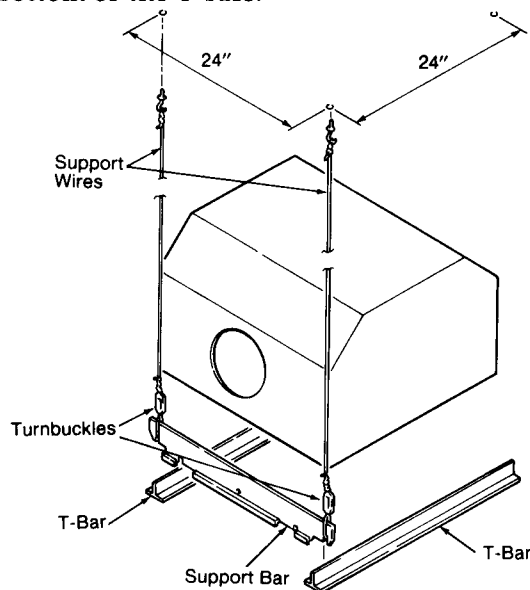

FIGURE 1
1. Attach four 12 gauge galvanized steel support wires to true ceiling at location shown in Fig. 1. Twist each wire at least four times to provide safe support for the air cleaner. The free end of each wire should extend six inches or more below the bottom of the T-bars.
2. At the end of each opening, set a support bar across the T-bars. The "J" shaped portion of the support bars should be oriented so the hook side of the "J" is toward the opening (not toward the adjacent T-bars). See Fig. 1.
4. Hook the turnbuckles to the support bars and then secure the support wires to the eyes of the turnbuckles (see Fig. 1). Twist the wire at least four times.